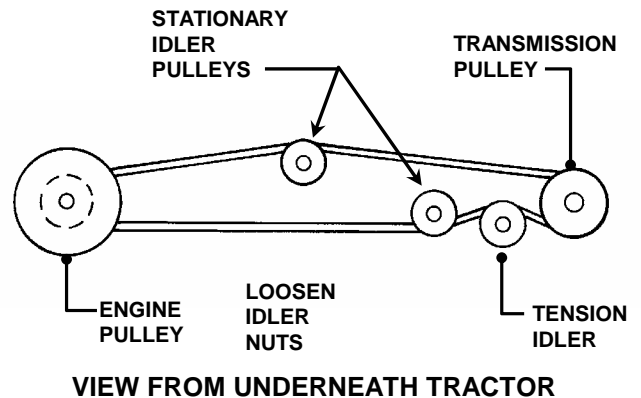

FIGURE 4.30
14. Loosen mounting nuts on traction drive belt tension and stationary idlers just enough to allow belt to clear belt guides. See Figure 4.30.